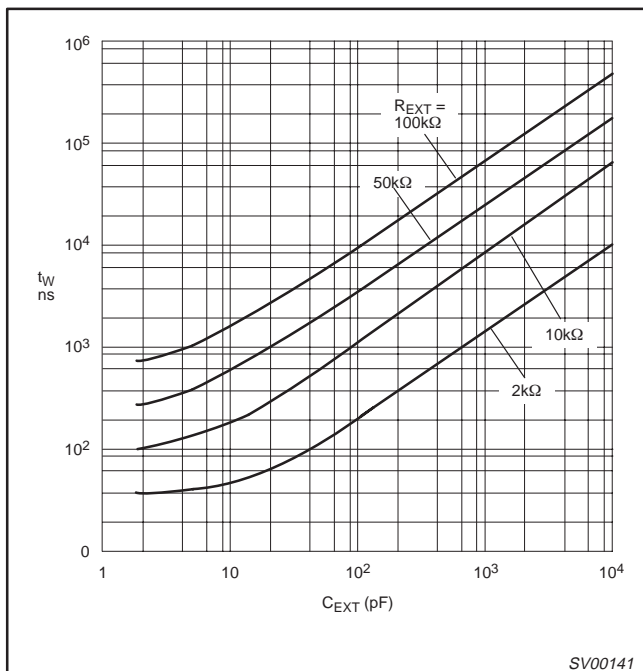

Figure 5. Typical output pulse width as a function of the external capacitor values at V_{CC} = 3.3V and T_{amb} = 25°C.
- For other R_{EXT} and C_{EXT} combinations see Figure 5.